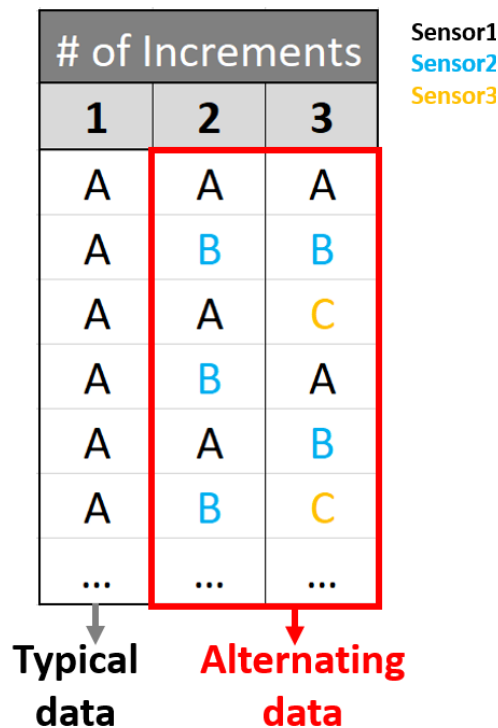

Figure 12.9: Increment Schematic
- The **Increment** parameter is used for very specific niche cases where data is not organized by column, and instead data from separate sensors/channels are alternated within a column, as in columns 2 and 3 of Fig. 12.9. The number of interleaving signals corresponds to the number of increments (Fig. 12.9).